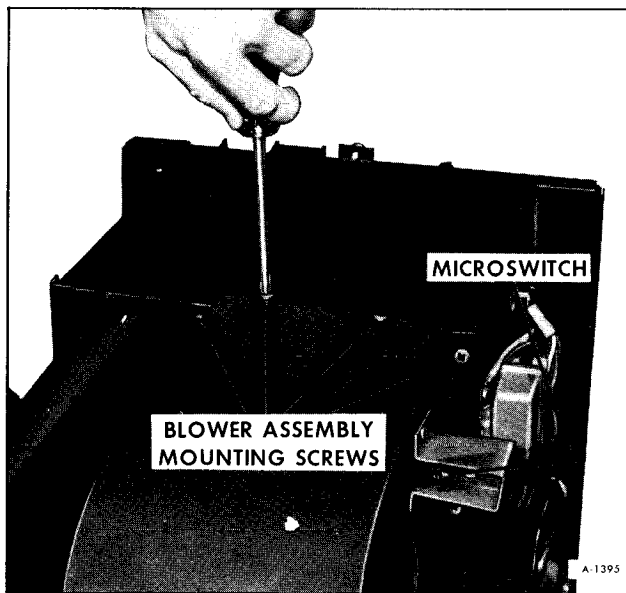

Figure 29-Removing Blower Assembly Screws
4. Remove the six screws holding blower assembly to furnace (See figure 29) (one at bottom of assembly).